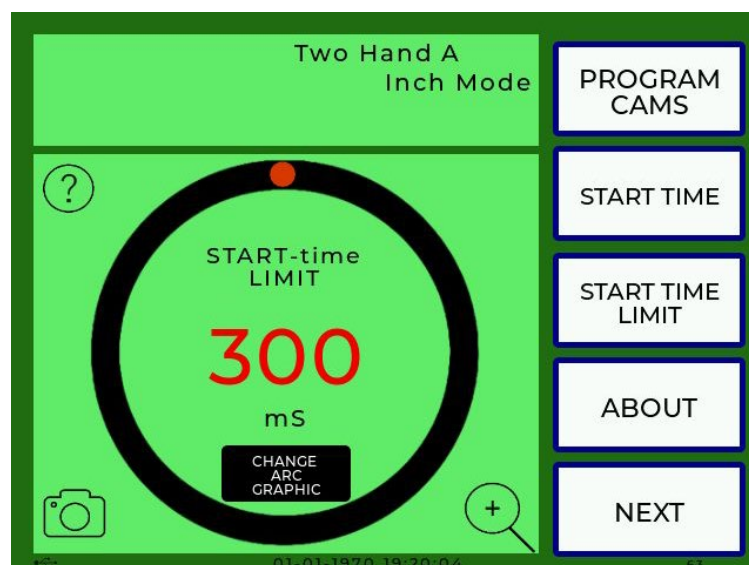

Figure 22. Start-Time Limit
1. With the Settings key turned to the left (PROG), press NEXT repeatedly, until START TIME appears on a control/navigation button (as in Figure 22).